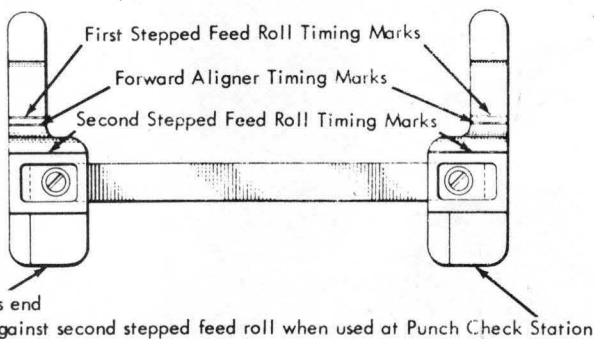
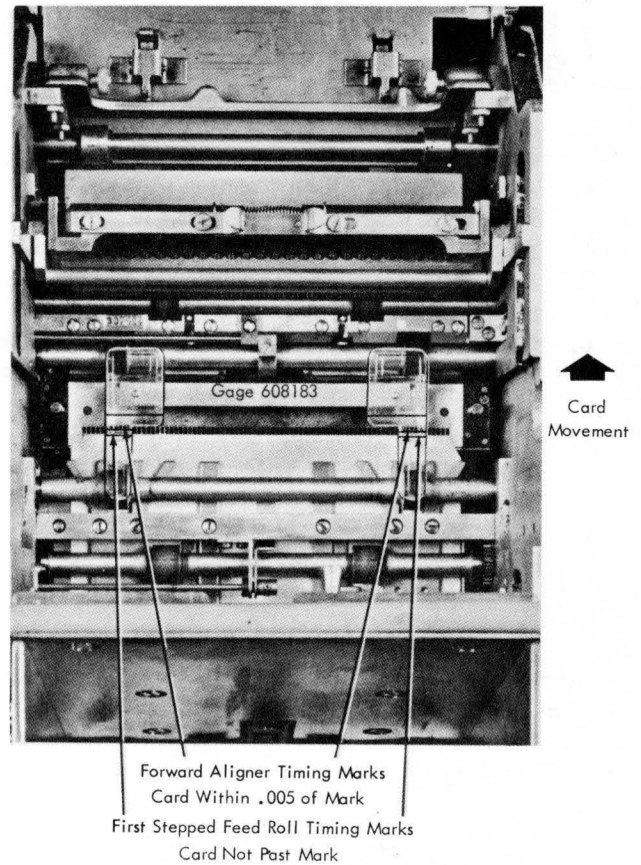

Figure 4-22. Gage P/N 608183
Figure 4-23. Punch Feed Station-to-Station Timings
2. Insert the Punch Transport gage (P/N 608183 - Figure 4-22) as shown in Figure 4-23.
4. Continue turning the machine and check to see that a card finishes forward aligning to within .005" of the forward aligner timing marks on the gage at 351° (Figure 4-23).
1. Trip the clutch at 300° and continue turning the machine to 351° . Adjust the forward aligners so that the trailing edge of the card is against each aligning surface of the forward aligners and the leading edge of the card is within .005" of the forward aligner timing marks on the gage (Figure 4-23) at 351° . To adjust the forward aligners: